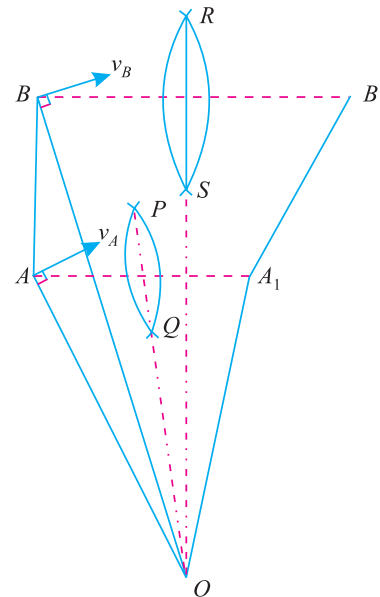

Fig. 22.2. Instantaneous centre.
We have discussed in the last article the motion of a rigid link as an example of combined motion of rotation and translation. Now consider the motion of link from  $AB$  to  $A_1B_1$  as shown in fig. 22.2. In the last article, we had split up such a motion for the sake of analysis into the following two parts :
4. Extend the two right bisectors  $PQ$  and  $RS$  to meet at  $O$ , which is the required centre of rotation or instantaneous centre as shown in Fig. 22.2.
The direction of  $v_A$  and  $v_B$  will be at right angles to  $OA$  and  $OB$  respectively as shown in Fig. 22.2.